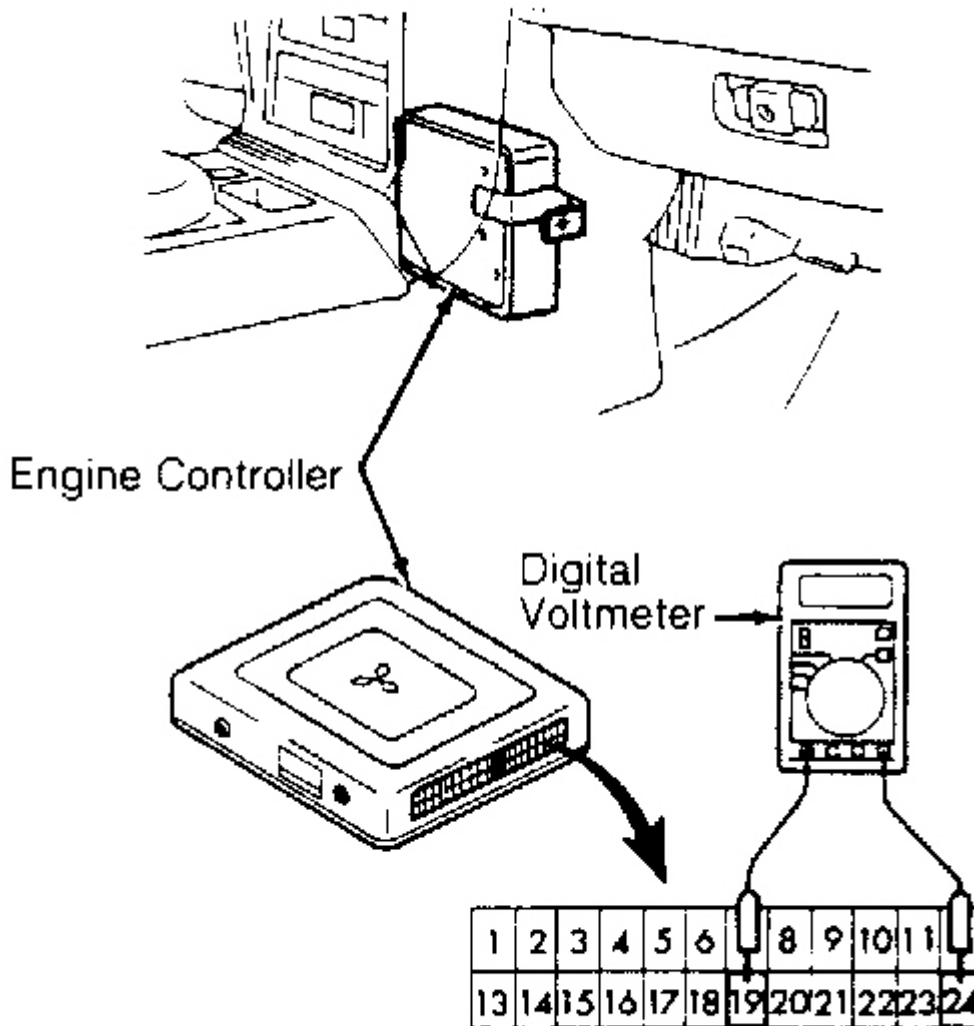

Fig. 16: Connecting Digital Voltmeter at Engine Controller
1. Ensure free play exists in throttle cable at the throttle body. Note location of engine controller, which is below instrument panel, near center console. See **Fig. 16**.
2. Connect digital voltmeter between terminals No. 19 (TPS sensor output) and No. 24 (ground) on engine controller. See **Fig. 16**.